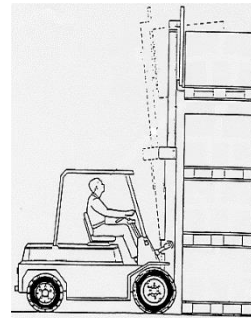

fig. 4
8. Once the load is cleared of the stack, carefully apply backward tilt, just sufficient to stabilise the load. (See fig. 4)